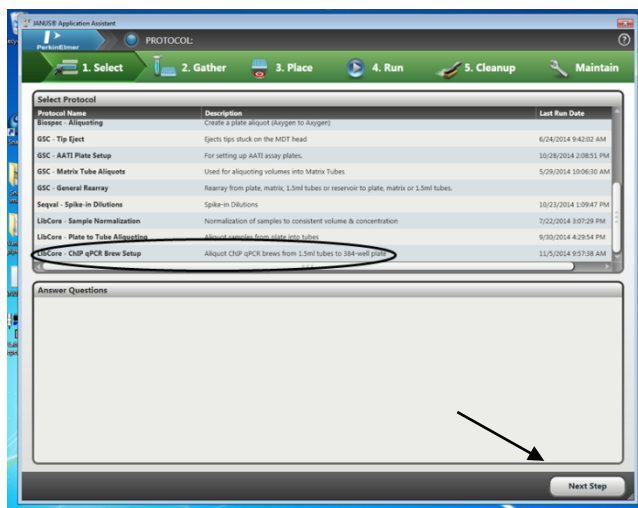

Figure 3: Protocol selection window
- 3.12. Once the software is initialized, the type of protocol to be run is to be selected. Select “LibCore - ChIP qPCR Brew Set Up”. See Figure 3.